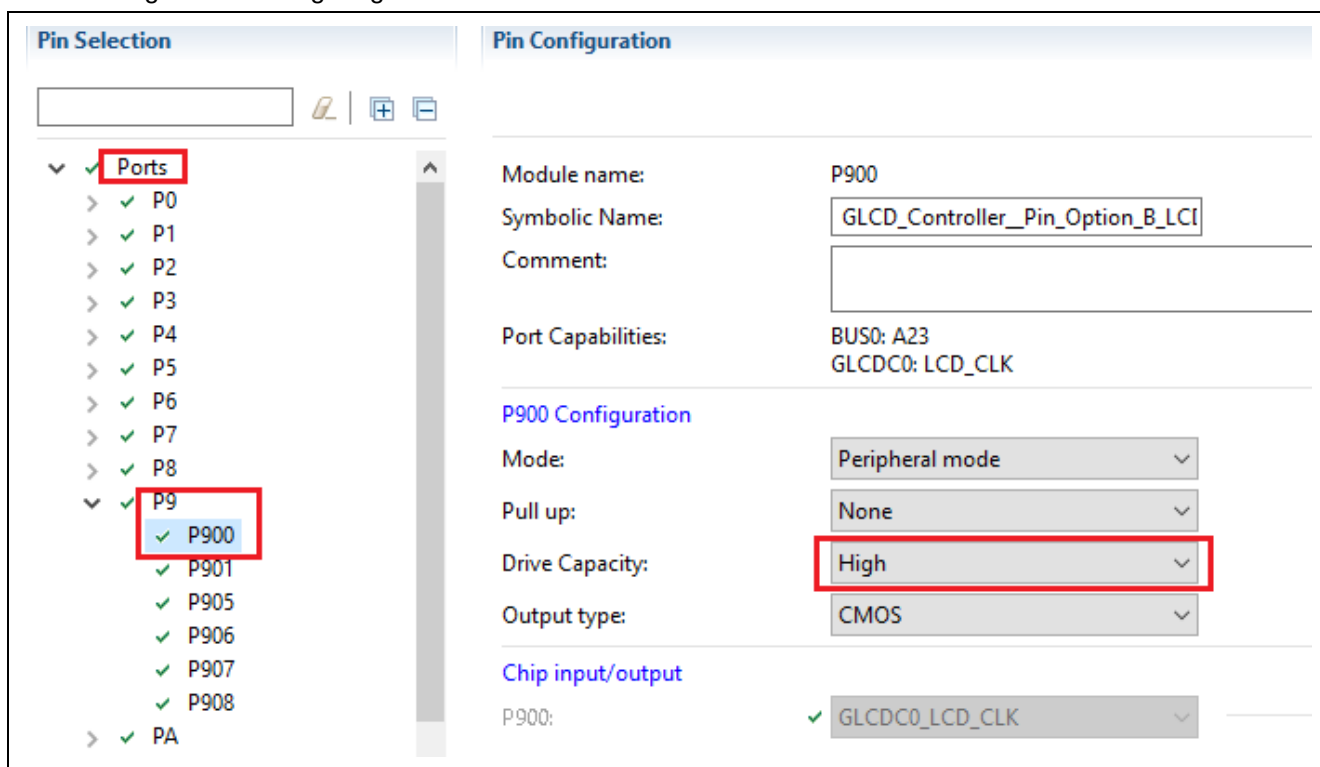

Figure 54. Example of Drive Capability configuration for GLCDC
41. Configure **Drive Capacity** to **High** for all pins related to **GLCD_Controller_Pin_Option_B** as shown in Figure 54.
- A. You can confirm which pins would be used for **GLCD_Controller_Pin_Option_B** by referring to Figure 54. through Figure 56.